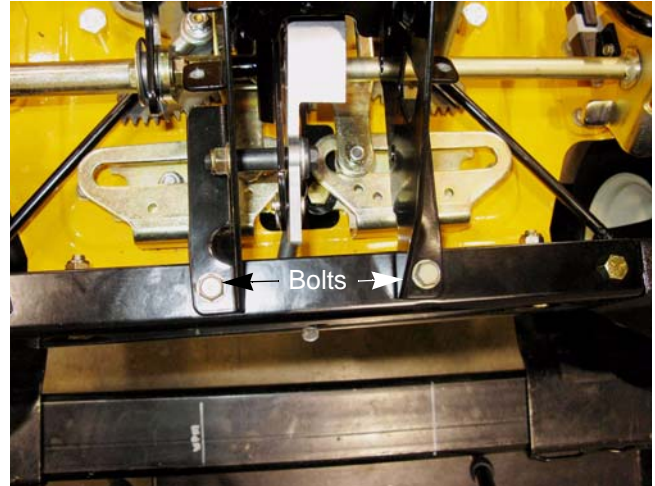

Figure 4.40
8. Remove the two nuts and bolts that hold the front of the steering column assembly to the mower using a pair of 1/2" wrenches. See Figure 4.40.